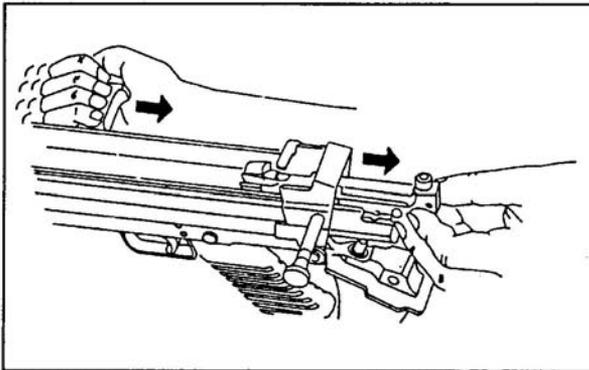

Figure 071-312-4025-4. Removal of the operating rod, slide assembly, and bolt assembly
(2) Rotate the bolt clockwise to disengage the lug. Remove the bolt from the slide assembly. Separate the piston from the slide assembly by pressing the rearmost retaining pin to the left and lifting the piston off the slide assembly (figure 071-312-4025-5).